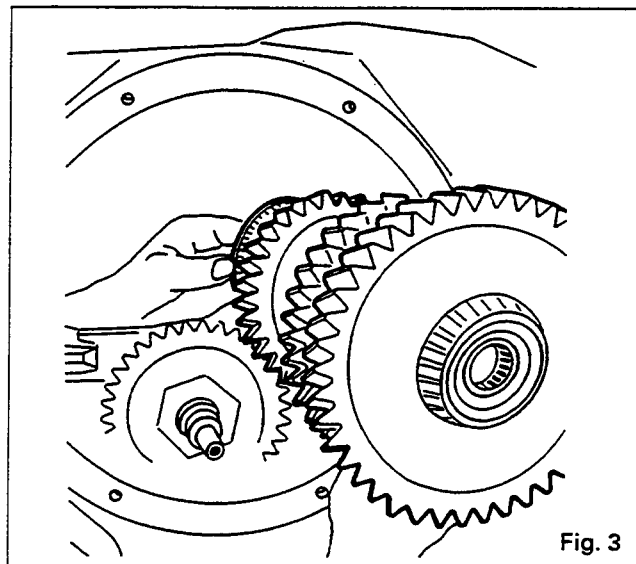

Fig. 3
6. Remove the deflector (50), the shims (51) and the cup (52). Withdraw the shaft assembly (Fig. 3).
7. Extract the bearing cones (53) and (63).
8. Remove the circlip (61).
9. Remove the 2nd gear (59), the shims (58), the 1st gear (60) and the spacer (57).
10. Remove the 4th gear (56) and the 3rd gear (55).
11. Drive out the needle-roller bearing (62) and discard it.
18. Remove the circlip (61) and the gear (59).
20. Use the press and a suitable fixture to fit the cones (63) and (53).
21. Reinstall the assembled shaft and the cup (52).